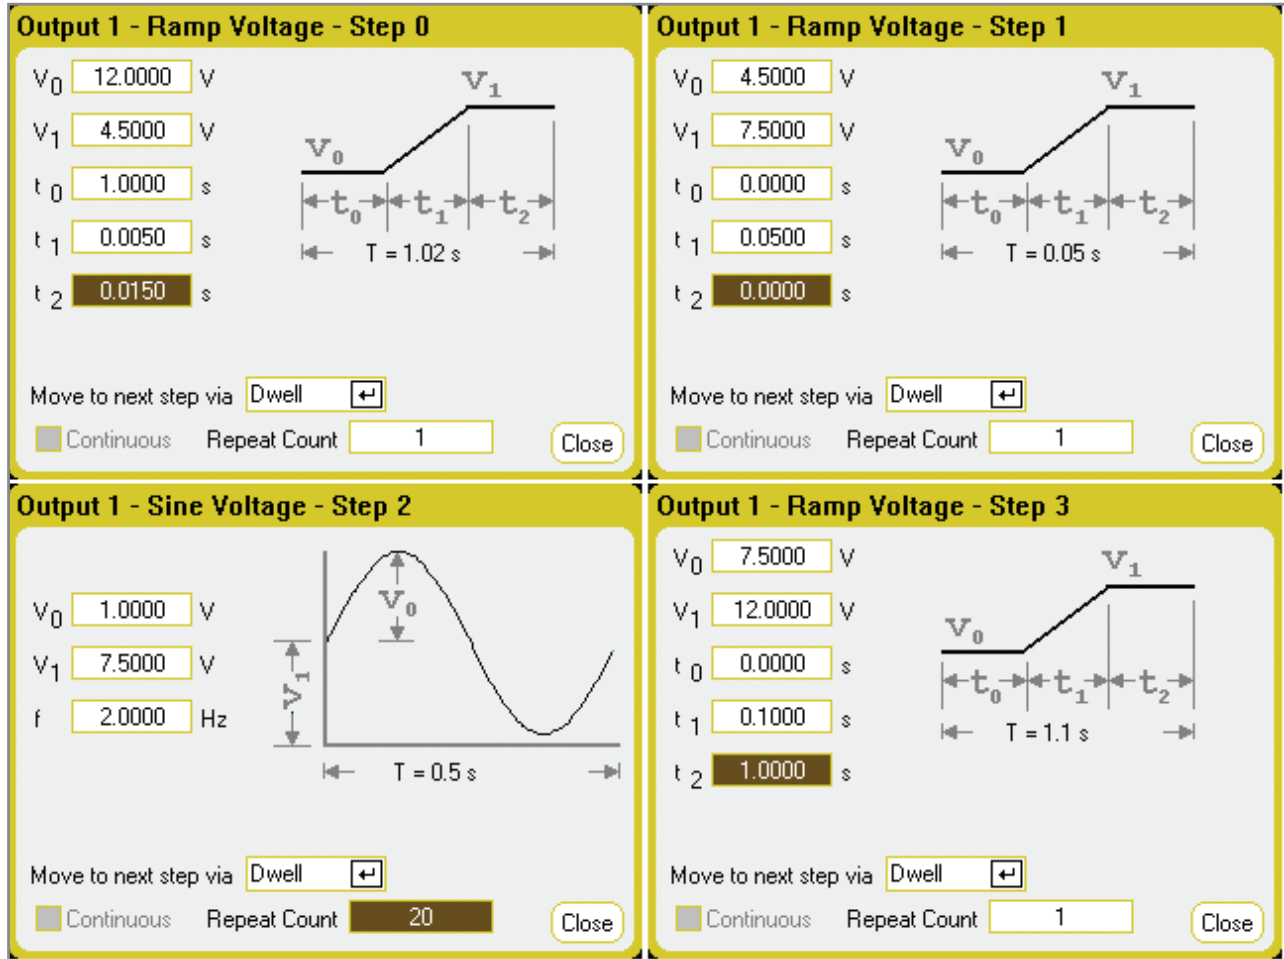

Figure 5. Edit steps 0-3 with desired attributes
4. Now edit the steps for the waveform attributes you need. Use the navigation buttons to select the individual steps and press **Properties**. Edit step 0 through step 3 as shown in Figure 5.